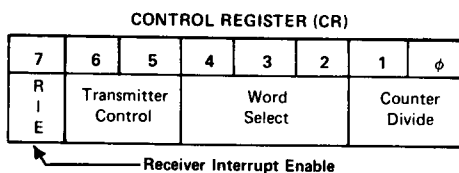

Fig. 9.33 Control register
The Control Register (CR), an eight-bit register within the ACIA, is used by the MPU to control the transmitting and receiving of serial data (Fig. 9.33). It is a write only register since the MPU cannot read it. To write into it, the ACIA must be selected via CS0, CS1, and $\overline{\text{CS2}}$, and both the RS line and the R/W line must be low (“0”).